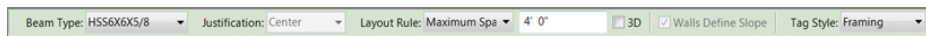

FIGURE 8.41: Setting the maximum spacing and the tag style on the Options bar
5. Change Layout Rule to Maximum Spacing, as shown in Figure 8.41. Set the distance field to 4'–0" (1200mm).